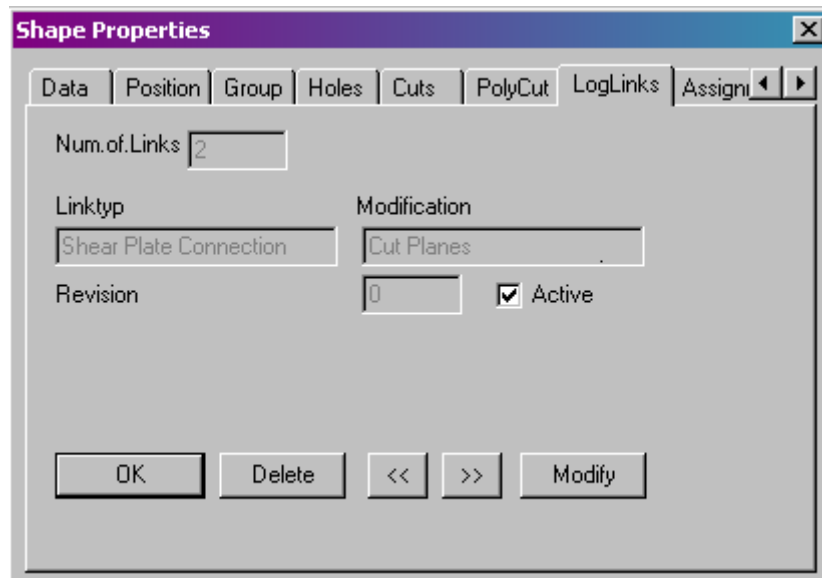

Fig 10
1. To edit a connection, of any sort, to a member, you need to go through the links in context dialog box. This can be achieved by clicking on the member that has the connection attached to it, by this I mean the first member that was selected to make the connection ie. Column to beam, you would select the column. Then right click the mouse and select the PS3D Properties. This takes us to a dialog box, Fig 10, that has all the components of the member. Here we can edit anything relating to this member. If we select the “*LogLink*” tab and then press the “<<” or “>>” button, we will see the member highlight when we have chosen the right connection to the corresponding member. Also note the link type. If it is greyed out then you have most likely chosen the wrong member to edit. Choose the corresponding member and try again. Once it is you select the modify button and edit the original dialog box for the connection etc. Note: all editing is done this way.